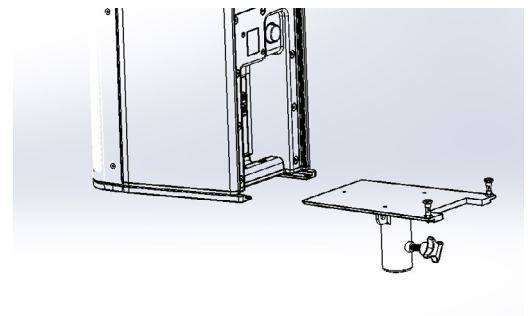

Figure 9 - Slide Pole Mount into place
2. Slide Pole Mount Plate into Slide Plate (Figure 9)